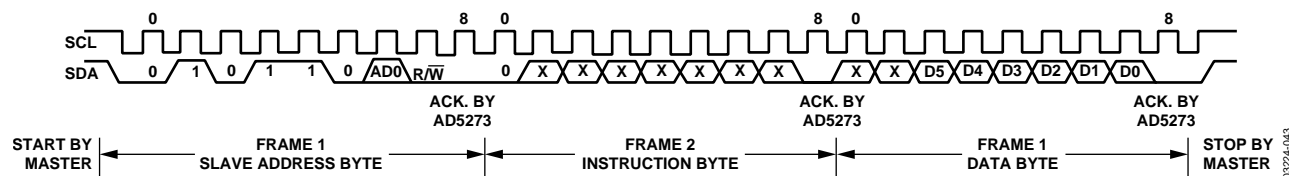
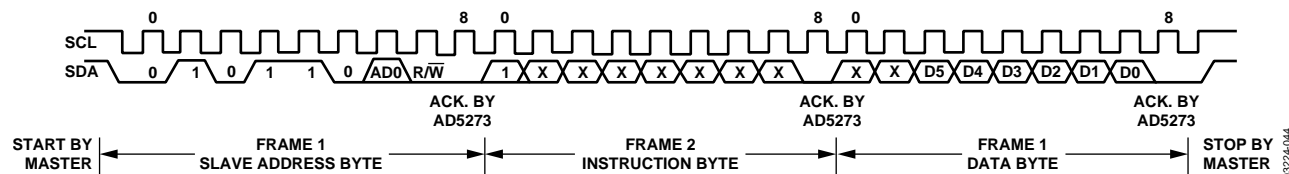
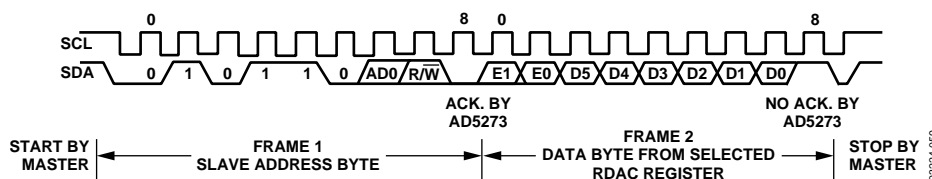
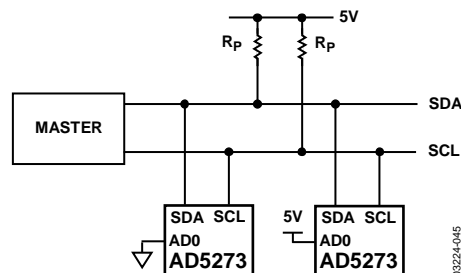

Figure 42. Writing to the RDAC Register
Figure 43. Activating One-Time Programming
Figure 44. Reading Data from the RDAC Register
Figure 45. Two AD5273 Devices on One Bus
For users who do not use the software solution, the AD5273 can be controlled via an I²C-compatible serial bus and is connected to this bus as a slave device. Referring to Figure 42, Figure 43, and Figure 44, the 2-wire I²C serial bus protocol operates as follows:
1. The master initiates data transfer by establishing a start condition. A start condition is defined as a high-to-low transition on the SDA line while SCL is high, as shown in Figure 42. The byte following the start condition is the slave address byte, which consists of six MSBs defined as 010110. The next bit is AD0; it is an I²C device address bit. Depending on the states of the AD0 bits, two AD5273s can be addressed on the same bus, as shown in Figure 45. The last LSB is the R/W bit, which determines whether data is read from or written to the slave device.
2. A write operation contains one more instruction byte than the read operation. The instruction byte in the write mode follows the slave address byte. The MSB of the instruction byte labeled T is the OTP bit. After acknowledging the instruction byte, the last byte in the write mode is the data byte. Data is transmitted over the serial bus in sequences of nine clock pulses (eight data bits followed by an acknowledge bit). The transitions on the SDA line must occur during the low period of SCL and remain stable during the high period of SCL, as shown in Figure 42.
3. In read mode, the data byte follows immediately after the acknowledgment of the slave address byte. Data is transmitted over the serial bus in sequences of nine clock pulses (slight difference from write mode, there are eight data bits followed by a no acknowledge bit). Similarly, the transitions on the SDA line must occur during the low period of SCL and remain stable during the high period of SCL, as shown in Figure 44.
4. When all data bits have been read or written, a stop condition is established by the master. A stop condition is defined as a low-to-high transition on the SDA line while SCL is high. In write mode, the master pulls the SDA line high during the 10th clock pulse to establish a stop condition, as shown in Figure 42 and Figure 43. In read mode, the master issues a no acknowledge for the ninth clock pulse, that is, the SDA line remains high. The master then brings the SDA line low before the 10th clock pulse, which goes high to establish a stop condition, as shown in Figure 44.
Figure 45 shows two AD5273 devices on the same serial bus. Each has a different slave address because the state of each AD0 pin is different. This allows each device to operate independently. The master device output bus line drivers are open-drain pull-down in a fully I²C-compatible interface.